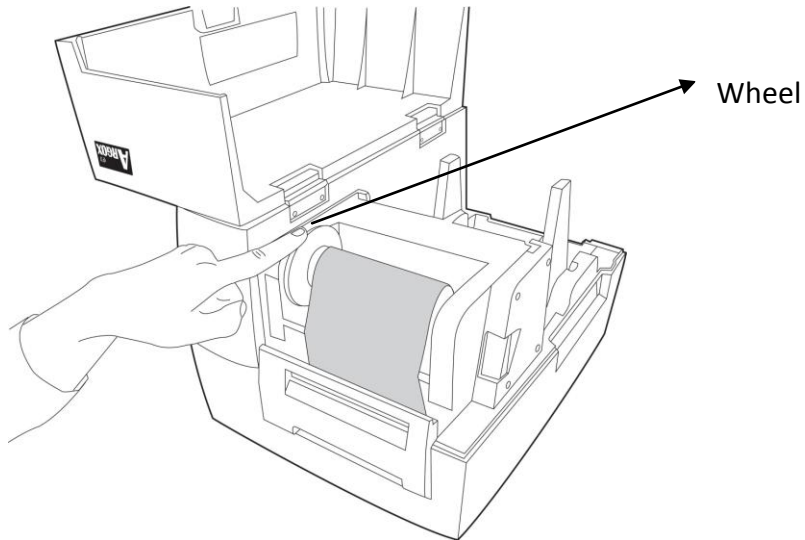

Figure 8
7. Turn the wheel of the print head module to ensure the ribbon is tightly wound. (Figure 8)